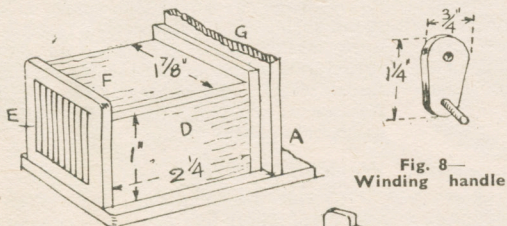
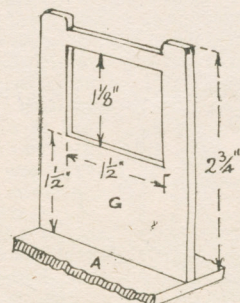

Fig. 3—Bonnet and radiator
Fig. 4—Front ladder support
(D), (E) and (F), and the sizes of nearly all these parts can be obtained from the detail, Fig. 3. It can be made complete and then glued down to the floor. Close to piece (C) stands piece (G) which forms the support for the escape ladder, and Fig. 4 gives the sizes for marking out on to $\frac{3}{16}$ in. wood.